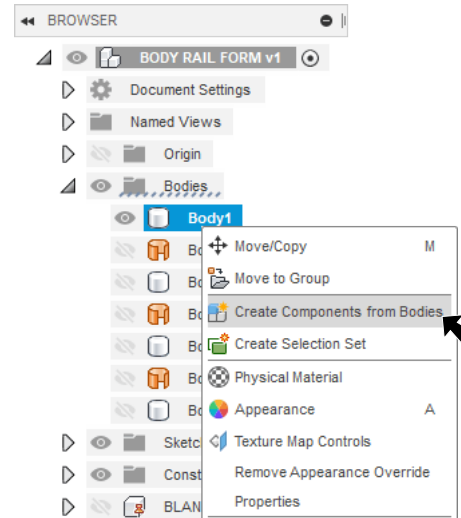

Fig. 2
Step 4. Expand **Bodies** in the Browser, **right click** **Body1**  and click **Create Components from Bodies**, Fig. 2.